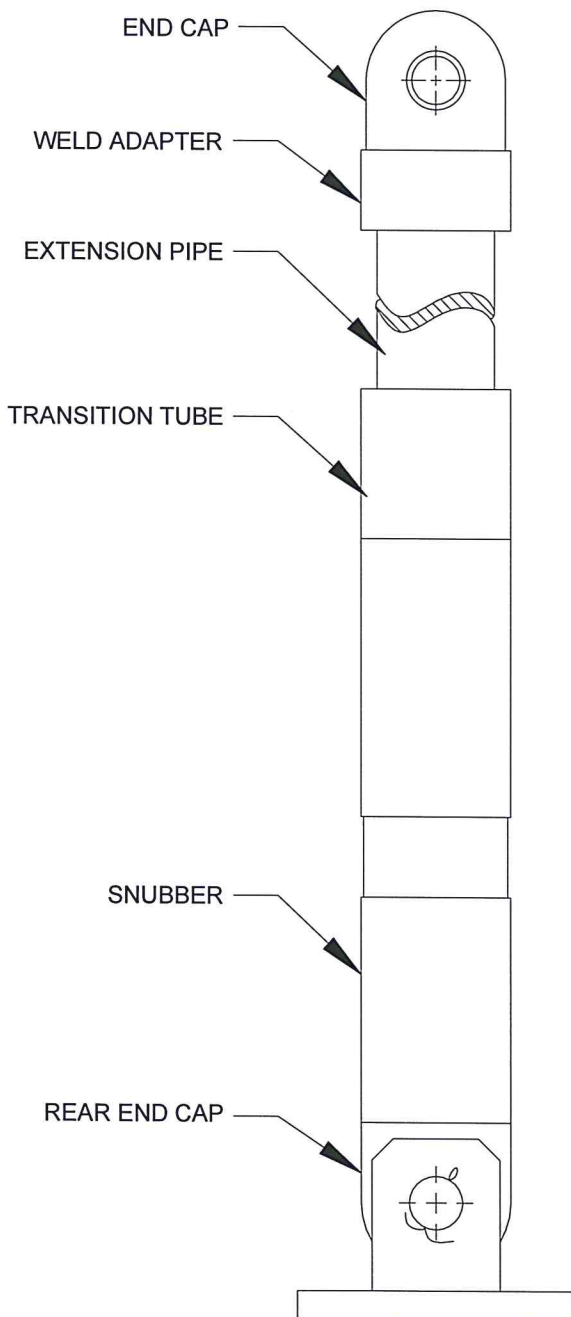

Figure 3-2
- 3.3** VARIABLE LENGTH arrestors are supplied in several modes: (Refer to Figure 3-2, page 22, and to the applicable "Strut" drawing.) In addition to the arrestor, a rear bracket assembly and an end cap assembly may be supplied. Either a weld adapter (male thread at one end) or a forward tube (male thread on end that inserts in arrestor and female thread to accept threaded end cap) will be pre-assembled as received. With the combination of parts including the weld adapter it is necessary for the installer to supply a length of pipe cut to the appropriate 'pin-to pin' length requirements (if pipe is not supplied by the factory). A 'strut' drawing and a "mark" number on the nameplate may or may not be contractually required from BASIC-PSA.